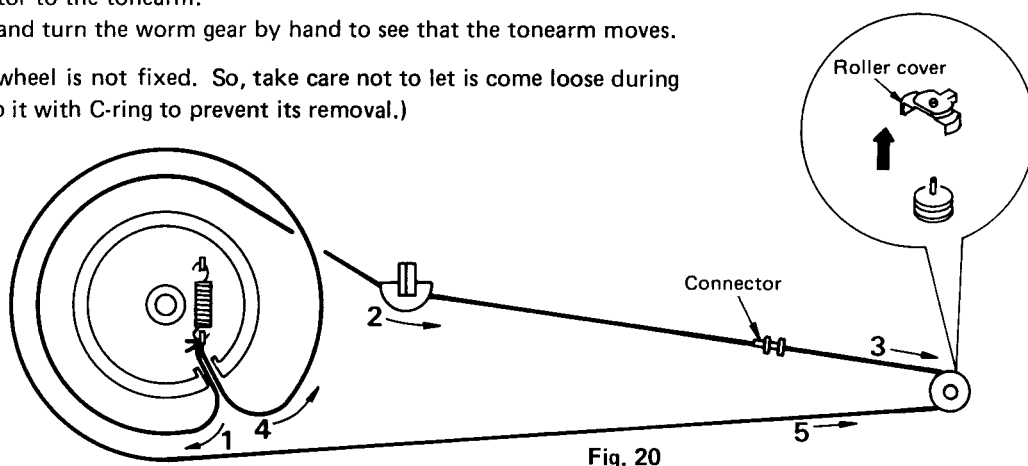

Fig. 20
2. Remove the roller cover. (Fig. 20)
3. Set the rope in the order of 1 ~ 5. (Fig. 20)